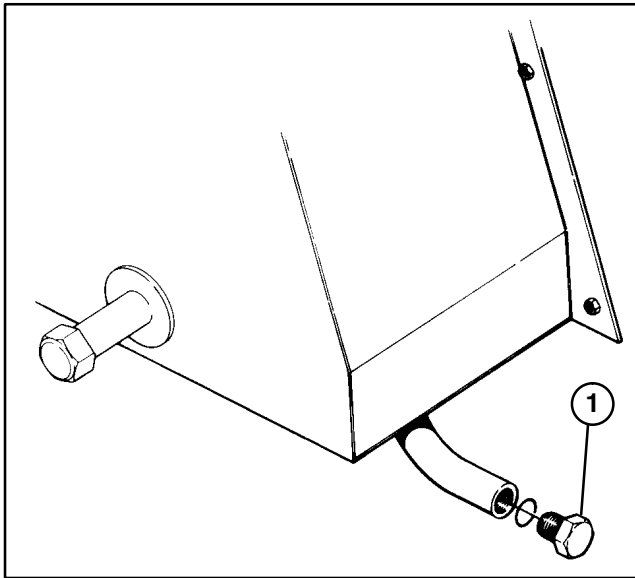

Figure 38
1. Open drain plug (Fig. 38) one-half turn and allow fluid to flow into drain pan until water is not noticed in hydraulic oil.
1. Remove drain plug (Fig. 38) from reservoir and let hydraulic oil flow into drain pan. Tighten plug when hydraulic oil stops draining.